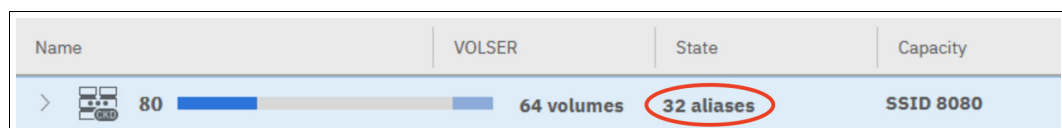

Figure 9-76 Thirty-two aliases are created for LSS 80
4. Click **Create**. The aliases are created for LSS 80, as shown in Figure 9-76.